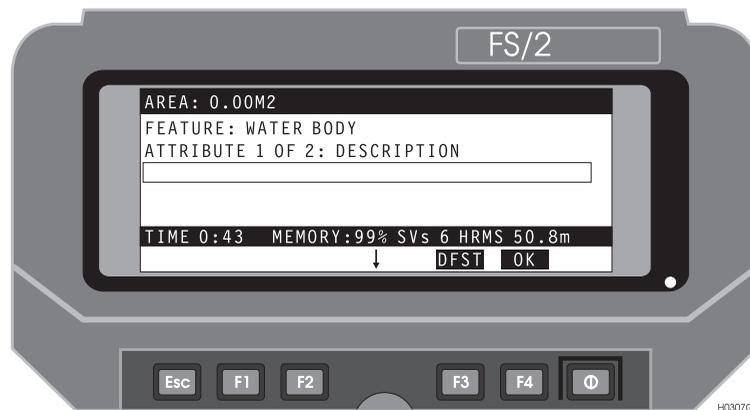

Figure 3.41: Feature Logging Screen, Real-Time Area Calculation
16. In the Select Feature screen, select **Generic Area**, then press F4 (LOG), calling the Feature Logging screen, Figure 3.41, which now shows the area calculation, displayed in the units you selected in step 9 above.